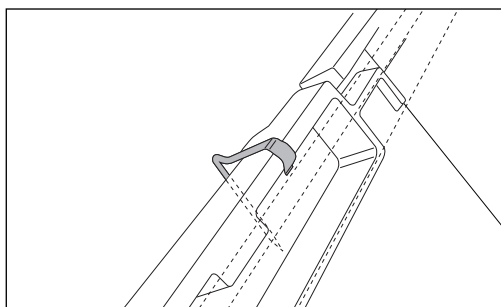

Fig 55 – Domino head clip
- B – Tiles requiring twice clipping (side and head) should be fixed using a Domino one piece Tile clip, located over the side lock of the tile, and in addition, a Domino one piece Head clip, located over the head lock of the tile (Fig 55).